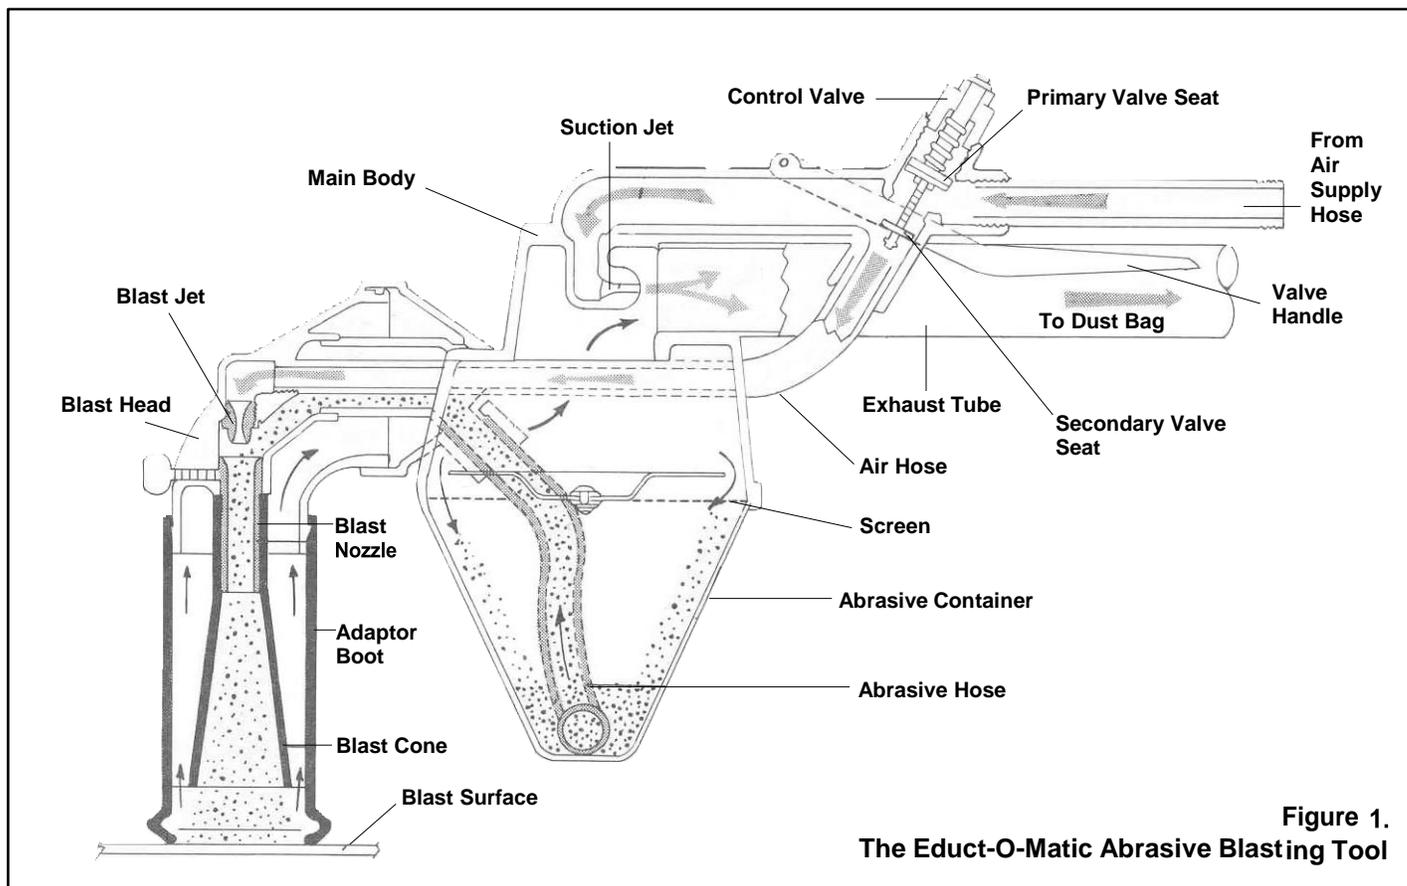

Figure 1.
**1.3 Principles of Operation (Figure 1).** When the dual-seated valve is fully open, compressed air entering the tool is split into two streams. The first rushes through the air hose to the blast jet. A partial vacuum is created in the blast head at the point where this air stream passes from the blast jet to the blast nozzle, and abrasive is drawn up to this point from the abrasive container via the abrasive hose. (This is the principle of eduction which gives the tool its name.) The air/abrasive mixture then passes through the nozzle and strikes the surface being blasted.
**3.2 Dual Action of the Valve Handle.** Note that the control valve (figure 1) has two seats. The first 3/16" of the valve handle's travel opens the primary seat only, and the Educt-O-Matic functions essentially like a vacuum cleaner. This is because the primary seat supplies air to the suction jet only. Squeezing the handle further opens the secondary seat as well. Air is supplied to the blast jet, and blasting begins.